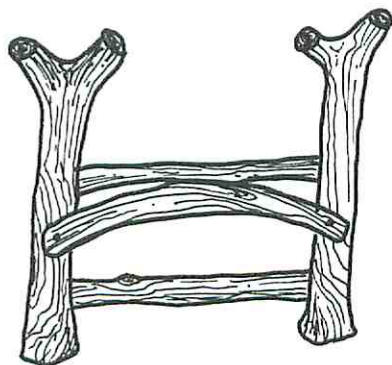

Figure 5
On to the front of the chair. The front seat rail (G) will line up with the front of the “U.” Predrill holes in the front seat rail and the front legs and attach with lag bolts. The front brace (H) will be bolted to the legs and screwed to the underside of the front seat rail. This will add greatly to the amount of weight that can be borne by the chair. Finally, the stretcher (I) is bolted to the legs at a point beneath the other two pieces. See Fig. 5.